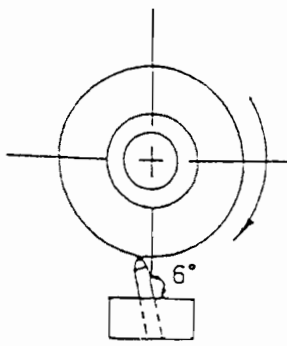
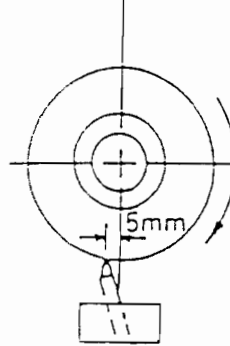

fig 1
fig 2
1. Circle the steel wire rope four times around the drum (figure 1).
2. Assemble the steel balls and steel ball retainers, and put them on top of the slideways (figure 2).
1. Assemble the steel balls and steel ball retainers, and put them on top of the slideways (figure 2).
After assembling the wheel and wheel flange (fig1), put the balancing arbor on, and place the assembly on the balancing stand (fig2), then follow the procedure below:
- A. When you dress grinding wheel, diamond inevitably wear along the rotating direction, so to eliminate this from happening, the diamond dresser has to be put at a slant angle of 6 degree to dress the wheel (fig 1).
- B. When you are going to dress the grinding wheel, please put the sharp tip of diamond dresser at approximately 0.2" (5mm) to the left bottom of the grinding wheel, and stop the longitudinal movement of working table, then you may move crossfeed in and out slowly to dress the wheel (fig 2).